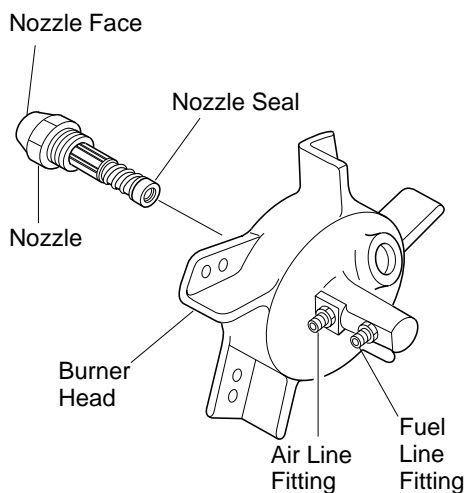

Figure 16 - Removing Nozzle
8. Carefully remove nozzle from burner head using 5/8" socket wrench (see Figure 16, page 11).